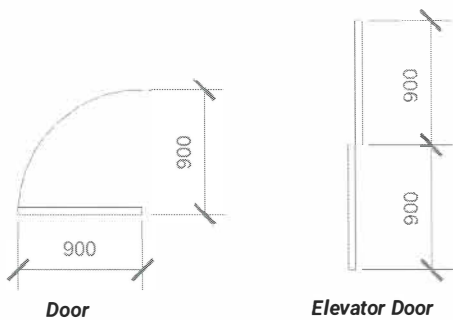

Figure 12-18
2. Set the current layer to **Doors**. Draw the doors shown in Figure 12-18 and create blocks. The door panels are **50 units** thick. Do not include the dimensions in the blocks.